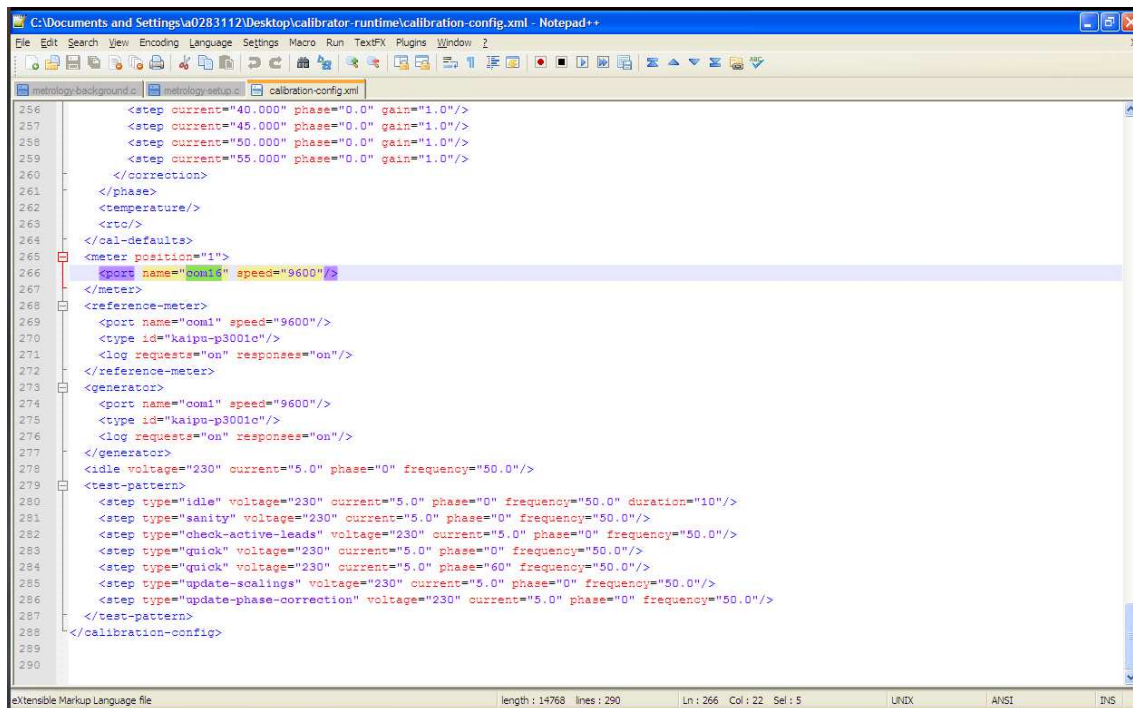

Figure 5. Editing “calibration-config.xml”
4. Open “calibration-config.xml” in the folder “calibrator-runtime” with a text editor or XML editor (see Figure 5). Go to the line as shown below and put in the COM port number in and save the file.